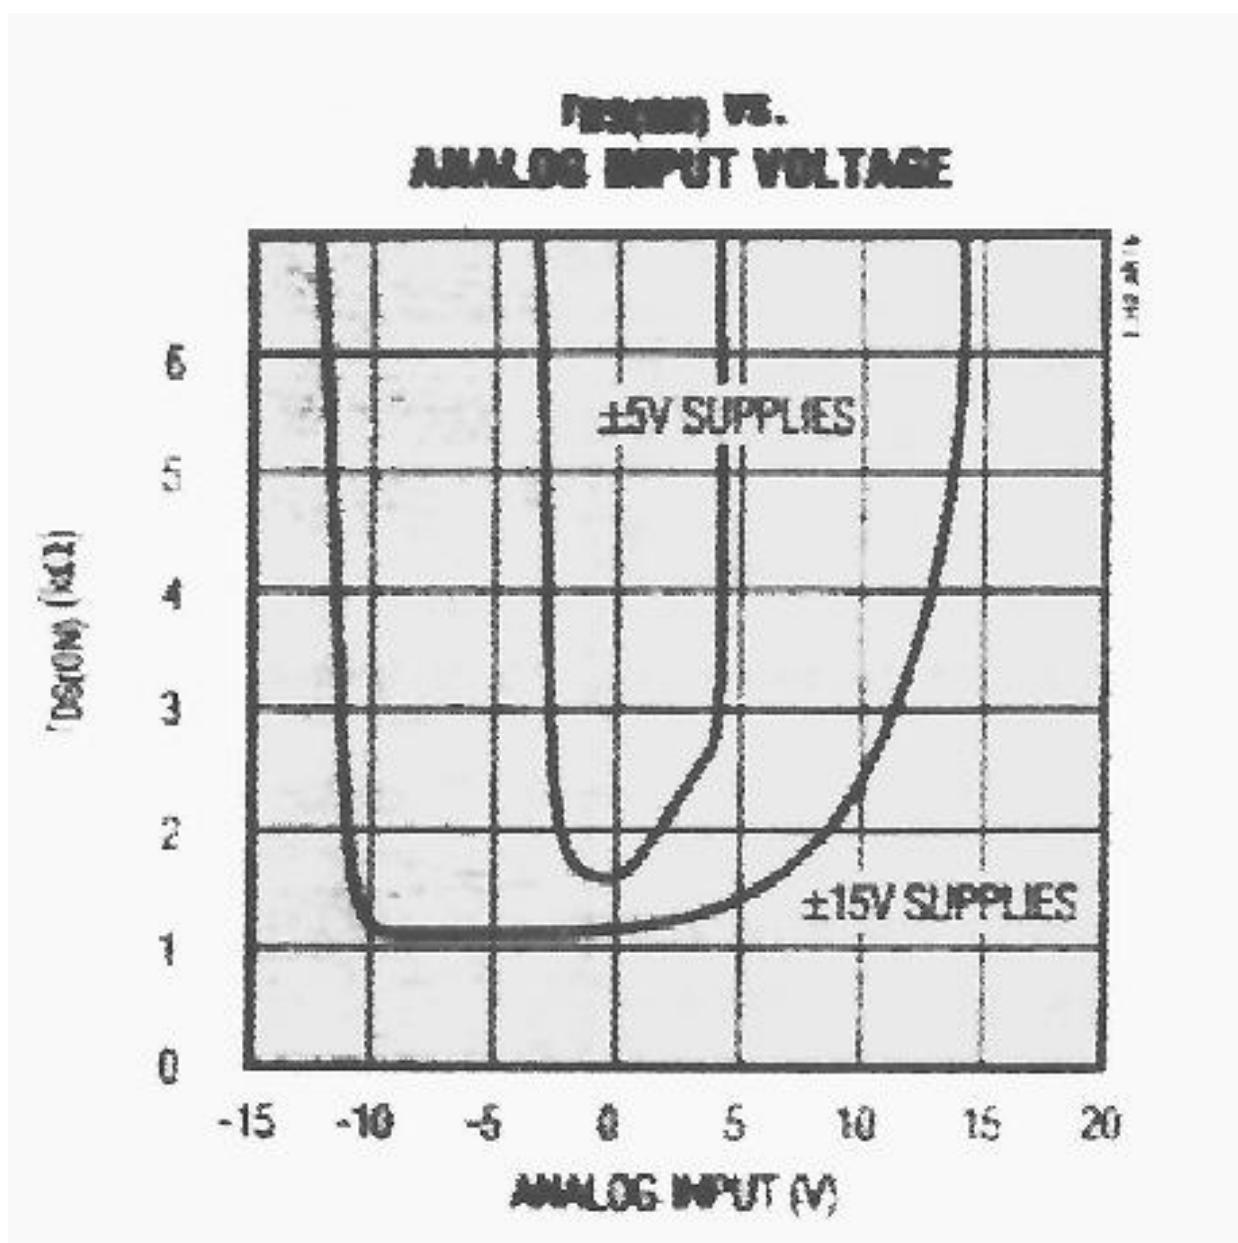

FIGURE 6B. Has an on resistance characteristic shaped like a bathtub.
- 96 Because one of the three MOSFETs in a switch begins to turn off as the signal exceeds either limit, the switch on-resistance versus input voltage assumes a characteristic "bathtub-shaped" curve FIGURE 6b, below.